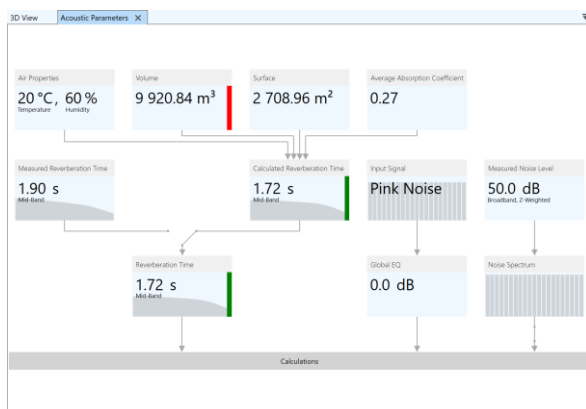

Figure 7.31 Room volume indicator is red due to missing or inverted faces.
1. Check the room volume using the VOLUME display in the ACOUSTIC PARAMETERS window (Figure 7.31).